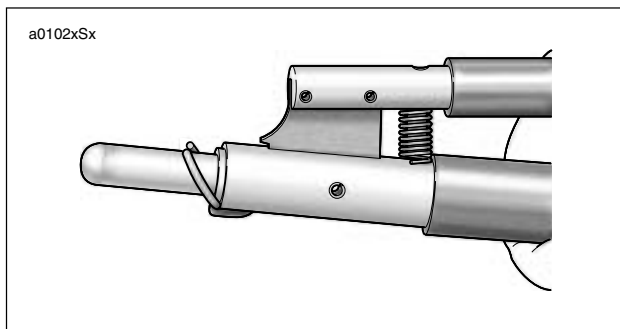
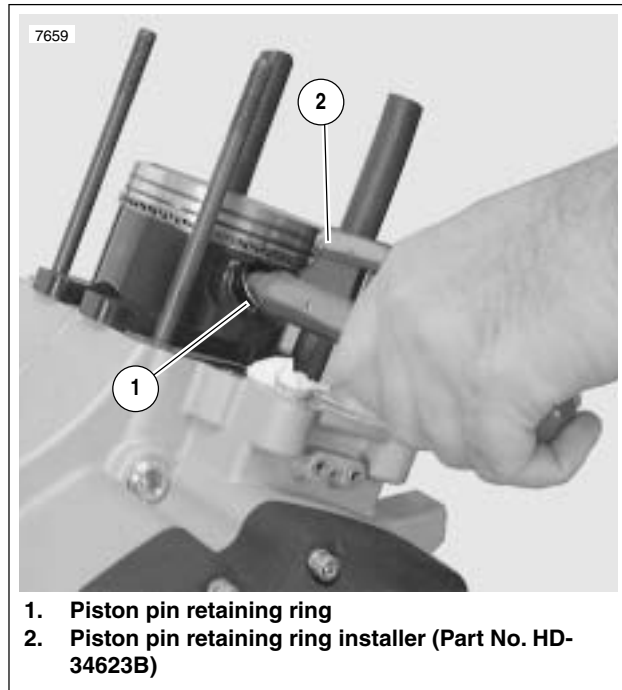

Figure 3-85. Installing Piston Pin Retaining Ring
Figure 3-86. Installing Piston Retaining Rings
4. See Figure 3-86. Install **new** piston pin retaining rings (1) using PISTON PIN RETAINING RING INSTALLER (2) (Part No. HD-34623B). Place **new** retaining ring on tool with gap pointing up. See Figure 3-85.